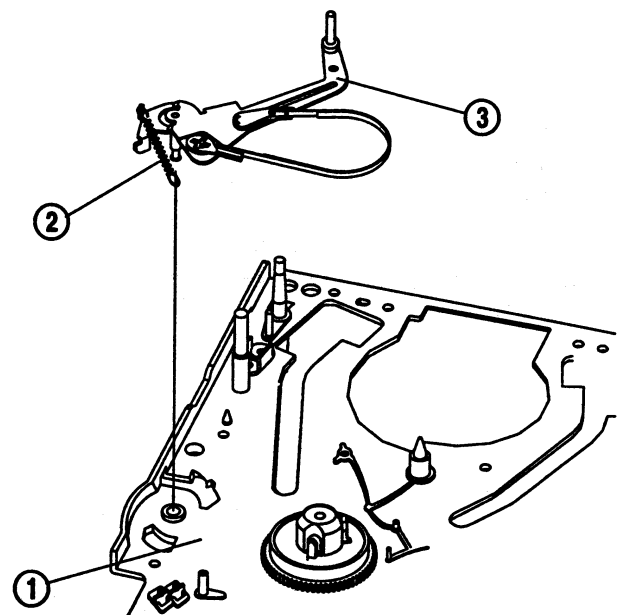

Fig. 26- Tension Band Assembly Removal (1)
Tension Band Assembly Removal (Fig. 26, 27)
1. Remove the tension spring ② from the main base ① (Fig. 26)